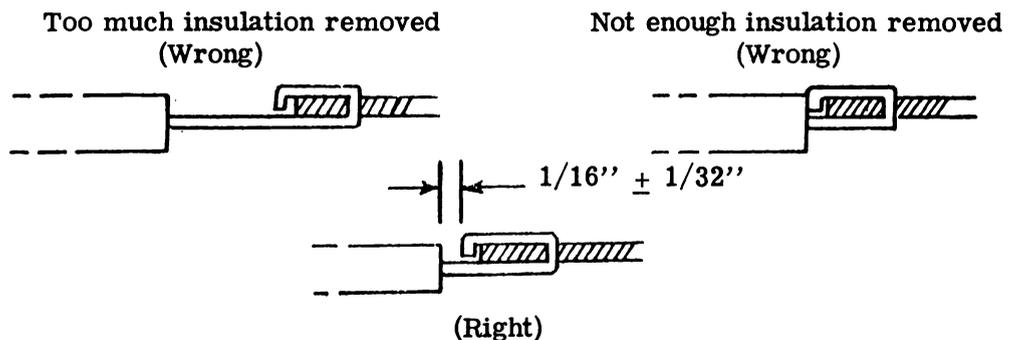

Figure 3-22
(3) Feathering at the edge of each joint.
(4) Sufficient contour of the wire shall be visible to assure that the solder bond is adequate.
(5) Wire insulation shall be kept within $1/16'' \pm 1/32''$ of the solder joint. In no case shall the insulation be in the solder. (See Figure 3-22.)